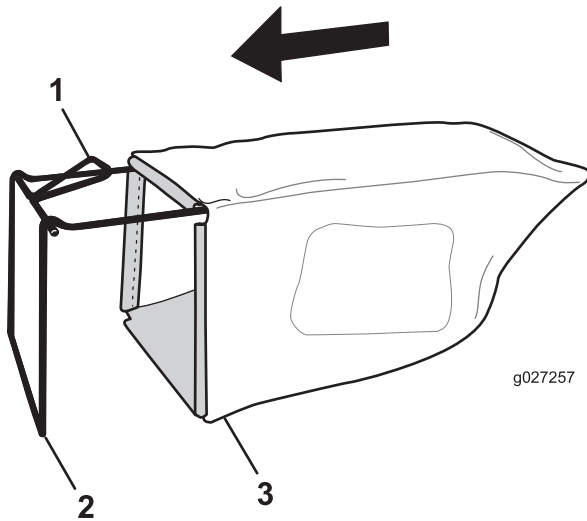

Figure 10
1. Slip the grass bag over the frame as shown in Figure 10.
**Note:** Do not slip the bag over the handle (Figure 10).